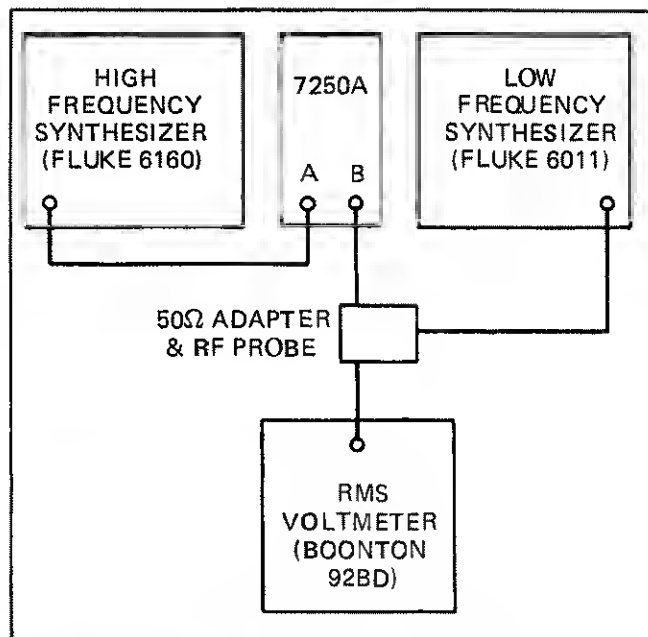

Figure 4-4. Channel B Sensitivity Test Connections
2. Connect the High Frequency Synthesizer, 7250A, Low Frequency Synthesizer, and RMS Voltmeter with RF Probe and 50Ω Adapter as illustrated in Figure 4-4.
6. Successively change the Low Frequency Synthesizer settings and the 7250A RESOLUTION settings as defined in Table 4-3. Repeat steps (4) and (5) for each frequency change. Correct display readings should be as presented in Table 4-3.